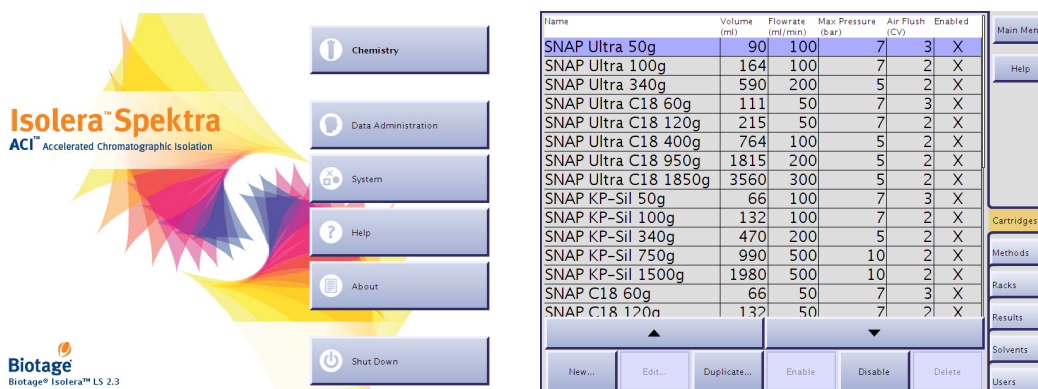

Figure 1-6. Main Menu and Data Administration Mode (Isolera LS Shown)
In the Data Administration mode, the software is divided into six (6) tabs that can be accessed in the right-hand panel (see Figure 1-6). Here is a short description of what you can do at each tab: